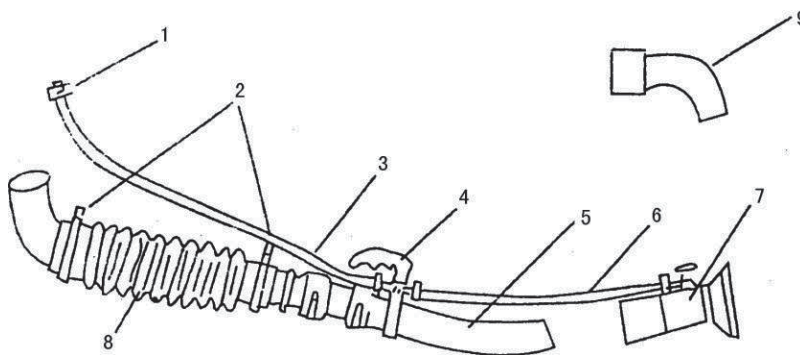

Fig.4
3) Connect spraying pipe to the machine as shown in Fig.4.